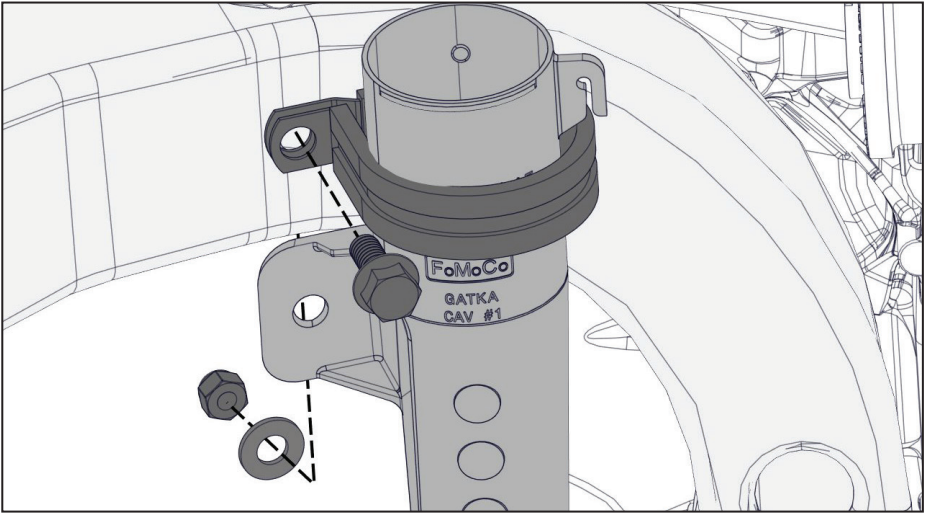

Figure 82 — Install the windshield washer bottle
- ☐ Using the supplied P-clip and fastener, secure the washer bottle fill to the subframe (Figure 82).